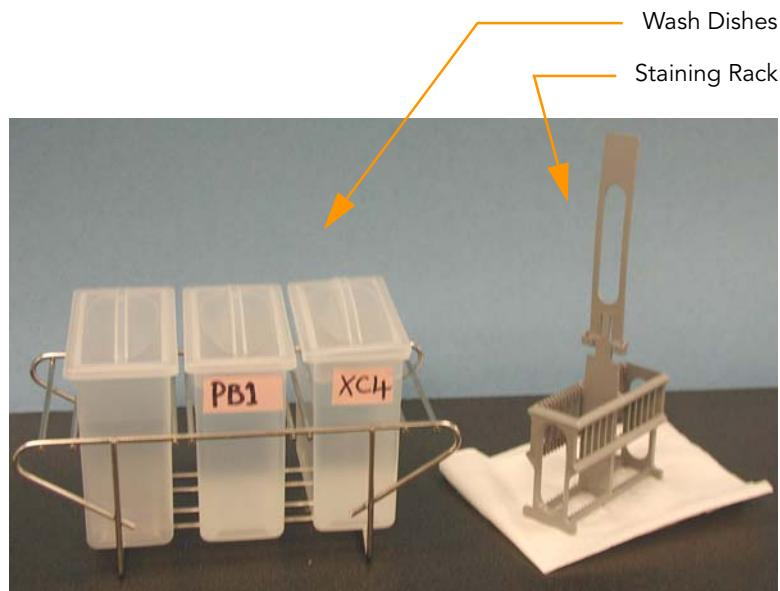

Figure 58 PB1 and XC4 Wash Dishes with Staining Rack
1. Set up two top-loading wash dishes, labeled "PB1" and "XC4" (Figure 58).